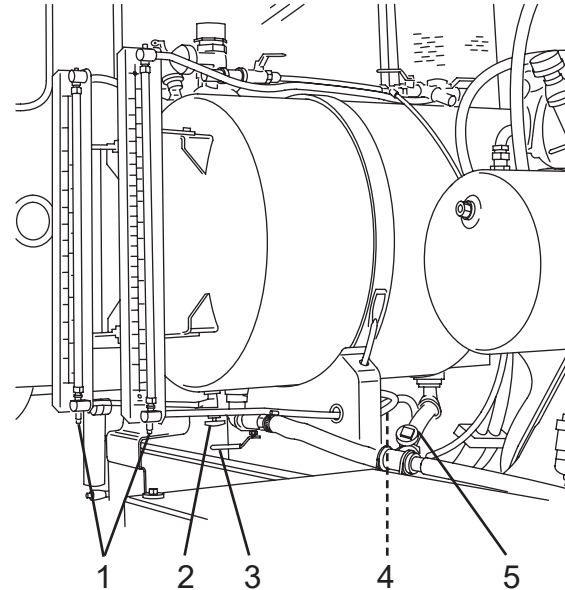

Figure 104
2. Remove the water tank drain plug(s), or open the main tank (Figure 104, Item 5) and chemical tank (if equipped) drain valves (Figure 104, Item 3).
3. Open the main tank (Figure 104, Item 4) and chemical (if equipped) sight glass isolator valves (Figure 104, Item 2).
4. Open the sight glass drain valves (Figure 104, Item 1).